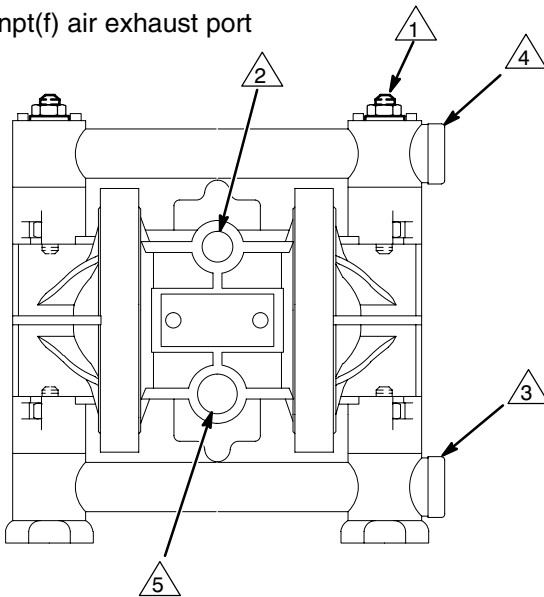

Fig. 2
- b. Locate one bleed-type master air valve (B) close to the pump and use it to relieve trapped air. See the **WARNING** above. Locate the other master air valve (E) upstream from all air line accessories and use it to isolate them during cleaning and repair.
- c. The air line filter (F) removes harmful dirt and moisture from the compressed air supply.
2. Install an electrically conductive, flexible air hose (C) between the accessories and the 1/4 npt(f) pump air inlet (see Fig. 2). Use a minimum 1/4" (6.3 mm) ID air hose. Screw an air line quick disconnect coupler (D) onto the end of the air hose (C), and screw the mating fitting into the pump air inlet snugly. Do not connect the coupler (D) to the fitting yet.
- The pump fluid inlet is 3/8 npt(f). See Fig. 2. Screw the fluid fitting into the pump inlet snugly. Use a compatible liquid thread sealant or PTFE tape on connections to prevent air from getting into material line.
- Use electrically conductive fluid hoses (N). The pump fluid outlet is 3/8 npt(f). See Fig. 2. Screw the fluid fitting into the pump outlet snugly.
The pump is shipped with the fluid inlet and outlet ports facing the same direction. See Fig. 2. If desired, the direction of one or both ports can be changed. Remove the manifold(s) from the pump as explained in steps 1, 2, and 4 on page 21. Reattach with the port facing the desired direction. **Do not over-torque.**